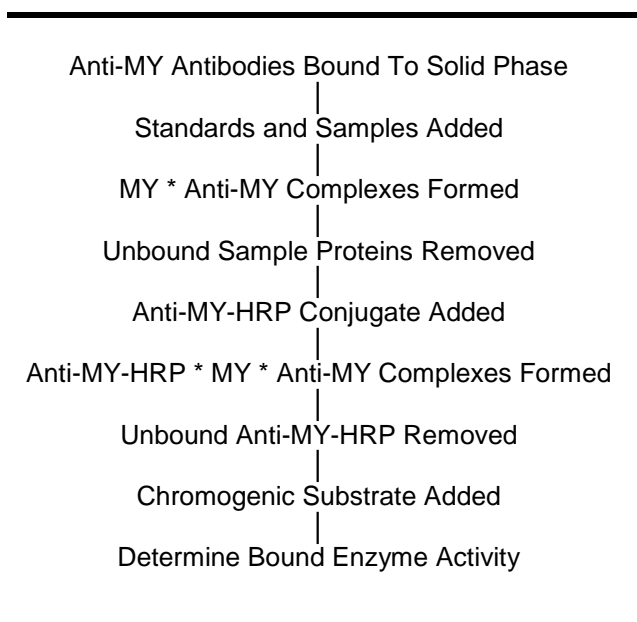

Figure 1
The principle of the double antibody sandwich ELISA is represented in Figure 1. In this assay the Myoglobin (MY) present in samples reacts with the anti-MY antibodies, which have been adsorbed to the surface of polystyrene microtitre wells. After the removal of unbound proteins by washing, anti-MY antibodies conjugated with horseradish peroxidase (HRP) are added. These enzyme-labeled antibodies form complexes with the previously bound MY. Following another washing step, the enzyme bound to the immunosorbent is assayed by the addition of a chromogenic substrate, 3,3',5,5'-tetramethylbenzidine (TMB). The quantity of bound enzyme varies directly with the concentration of MY in the sample tested; thus, the absorbance, at 450 nm, is a measure of the concentration of MY in the test sample. The quantity of MY in the test sample can be interpolated from the standard curve constructed from the standards, and corrected for sample dilution.